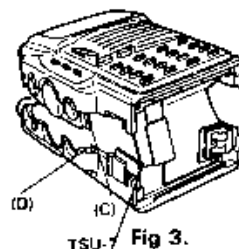

Fig 3.
5. Slightly lift the sides of the battery case at the front and rear, as shown in figure 3
8. When putting the case back together, make sure the PTT switch base (part C) fits in the groove (part D) in figure 3.